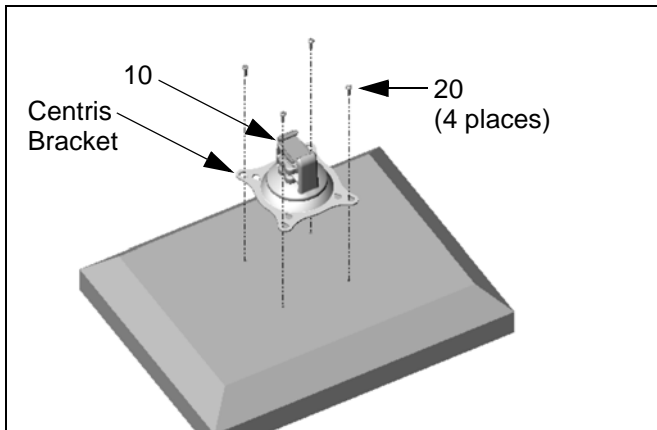

Figure 12: Dual / Triple Display - Flush Mount
4. Using Phillips screwdriver, install four screws (20) through the mounting holes in Centris bracket into the display (See Figure 12). Tighten all four screws (20). Do not overtighten!